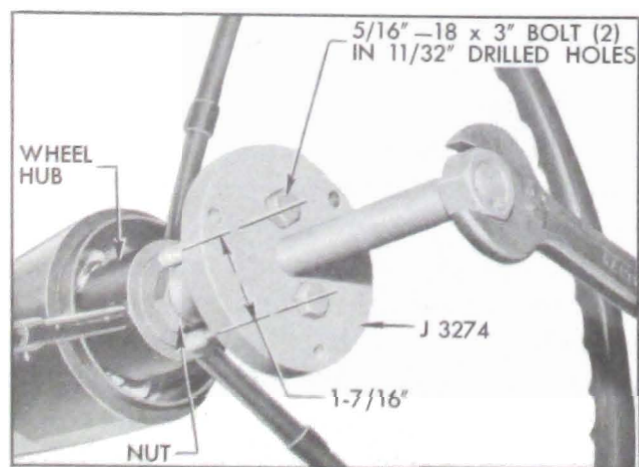

Figure 8-6—Removing Steering Wheel with Puller J 3274
3. Apply Puller J-3274 and pull wheel back to nut. See figure 8-6. NOTE: *If wheel hub is*